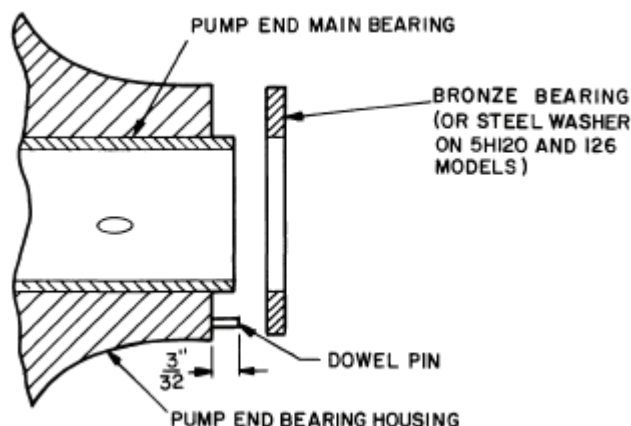

Fig. 25 — Pump-End Main Bearing Position
On 5H40-86 units, remove pump-end cover. Remove pump-end bearing head on all units. Inspect bearing for tolerances shown in Table 5. If a pump-end main bearing is worn, remove bronze bearing washer, and chisel out bearing. Inspect bearing housing for wear (see Table 5) and damage. Remove any burrs. See Fig. 25.
4. Place bearing washer on bearing with notch in washer properly positioned around dowel pin (see Fig. 25).